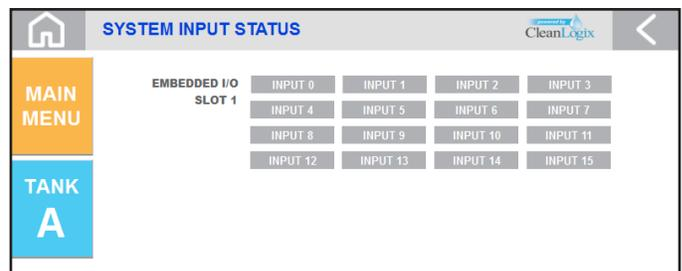

Figure 16.2: Input Status Screen
- Shows the status of every PLC input and output [Figures 16.2 & 16.3]. Green means the input or output is ON, gray means OFF.